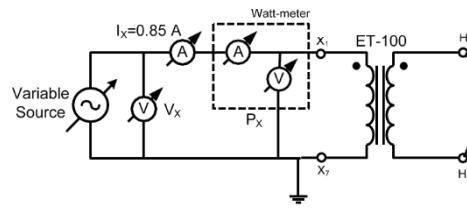

Fig. 7. The connections for the short-circuit test
- Make sure the power source is turned off and the voltage knob is turned to zero. Connect the transformer as in fig. 7. Using a similar procedure as in experiment 2, perform the SCT at 0.8 A primary current. BE CAREFUL the source voltage must be varied very slowly in this part.